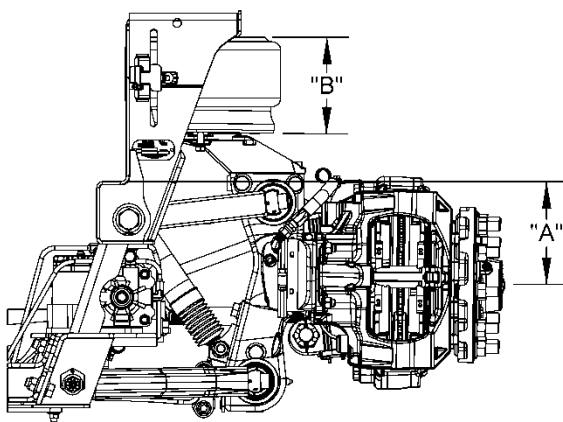

Figure 10 – Measurement at Ride Height
The ride height of the front suspension is the distance from the bottom of the chassis frame rail to the center of the wheel spindle. An alternate measurement may be taken as the height of the air spring (**Figure 10**).
4. Measure either the wheel center to bottom of frame ("A") or air spring height ("B"). If the dimensions are not within $\pm 1/8$ " of measurements in (**Figure 10**), adjust as follows.